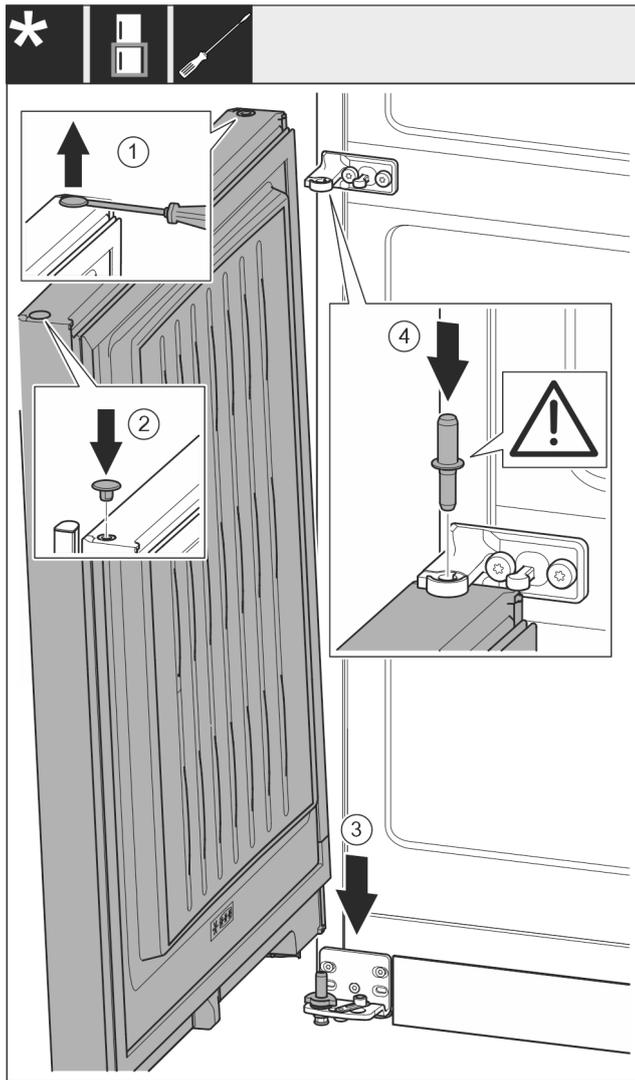

Fig. 56
- ▶ Use a slotted screwdriver to lift the plug Fig. 56 (1) carefully and pull it out.
- ▶ Re-insert the plug Fig. 56 (2) on the other door side.
- ▶ Lower the door Fig. 56 (3) onto the bottom bearing bolt.
- ▶ Insert the centre bearing bolt Fig. 56 (4) through the centre bearing block in the lower door. Ensure that the latching cam is pointing towards the rear.